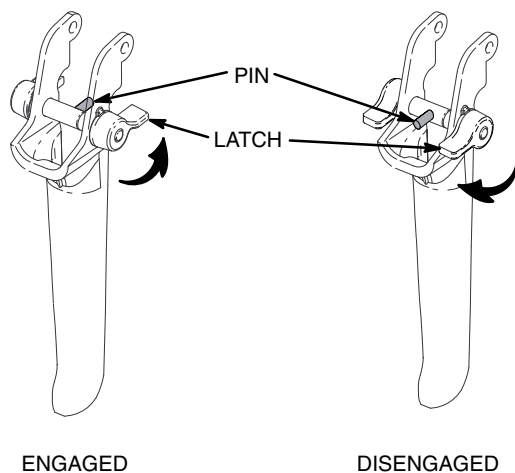

Fig. 3
1. To engage the gun trigger safety, turn the latch counterclockwise toward the handle until the detent of the latch locks on and the pin is at a right angle with the gun body. See Fig. 3.
3. **Turn the pressure knob (64) to the minimum setting.**
4. **Disengage the gun trigger safety.** See Fig. 3, page 7.